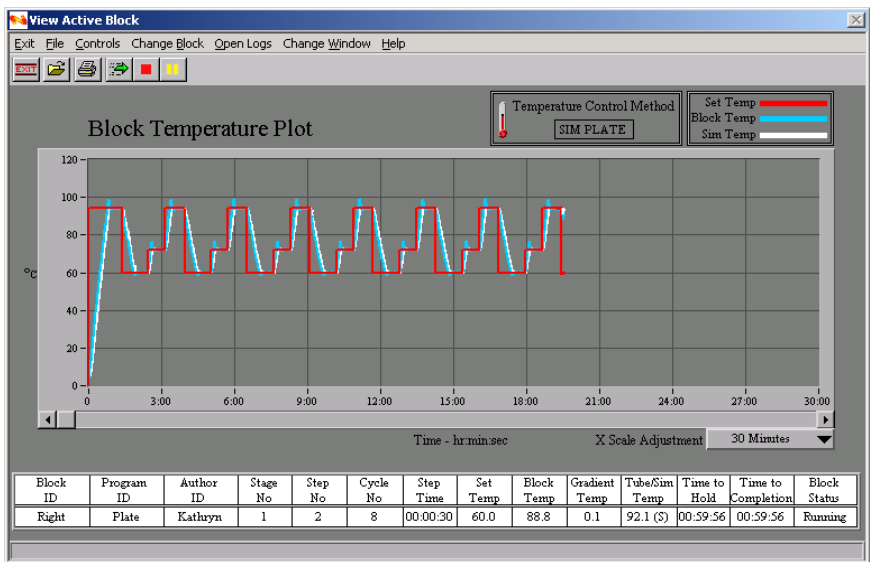

Figure 3.4: View Active Block Window
1. From the 'View Active Block' Window (Figure 3.4), select the block you want to use by choosing the 'Change Block' menu followed by 'Change Block Displayed', then selecting the required block from the drop down list.
The 'View Active Block' Window (Figure 3.4) allows you to view detailed information on the block. It also gives a graphical representation of the incoming temperatures. This can be used to see how a program is performing on a single block.
Should a fault occur, the block light will turn red, the block graphic will appear red on the screen and a fault message will appear in the fault log. The fault log can be accessed from pull-down menus in the 'View Active Block' window, 'Tabular Information on all Blocks' window or the 'Overview Block Status' window (Figures 3.4, 3.5 and 3.6, respectively). The block ID is shown on the top line above each block. The current program being run by the block is displayed on the second line below the block ID.